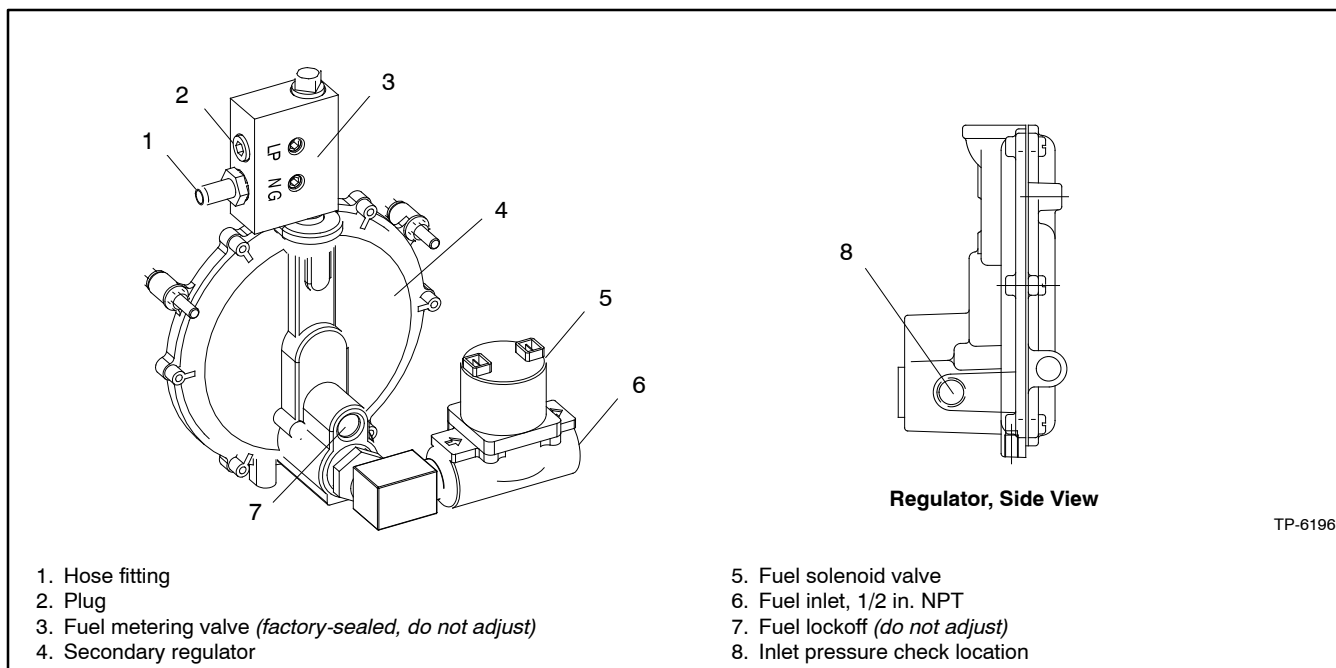

Figure 6-36 Fuel Regulator, Fuel Metering Valve, and Fuel Solenoid Valve
The fuel lock-off prevents fuel flow when the engine is not operating. See Figure 6-36. Do not try to adjust the fuel pressure, fuel mixture, or engine speed using the fuel lock-off.
Use a gauge or manometer to check the fuel pressure at the secondary regulator inlet. See Figure 6-36. Measure the fuel pressure with the generator set running at rated load. Verify that the fuel pressure is within the range shown in Figure 6-35. Contact the fuel supplier if the inlet pressure is not within the specified range.
5. Remove the hose clamp and fuel hose from the hose fitting in the fuel metering valve. See Figure 6-36.
6. Remove the hose fitting from the natural gas outlet port in the fuel metering valve. See Figure 6-36.
7. Remove the plug from the LP port in the fuel metering valve. See Figure 6-36. Clean the plug with a dry cloth or brush, apply fresh pipe sealant, and install the plug into the natural gas outlet port.